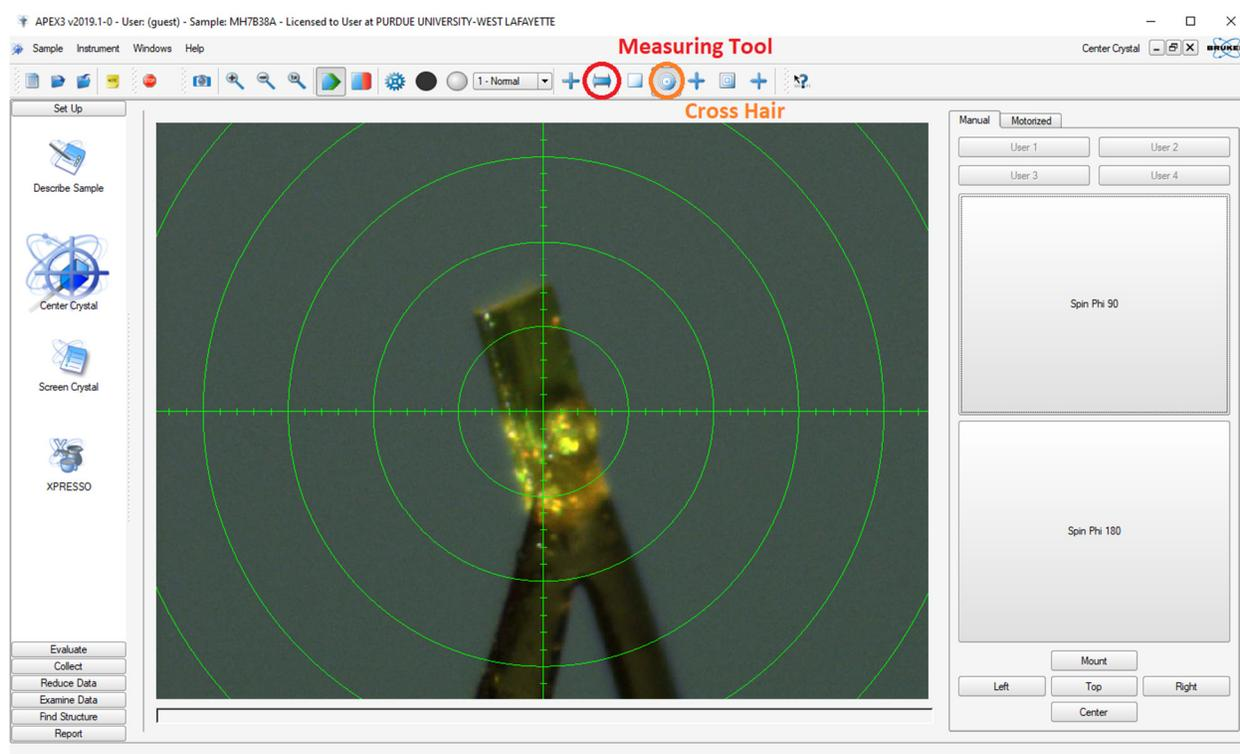

Figure 8, Crystal Centering Window.
- Measure the dimensions of the crystal: Switch on the measuring tool (double sided arrow icon on top of **<Center Crystal>** window, Fig. 8). Click on one side of the crystal, hold the left mouse key and drag to the other side. The length of the green line dragged is given in the